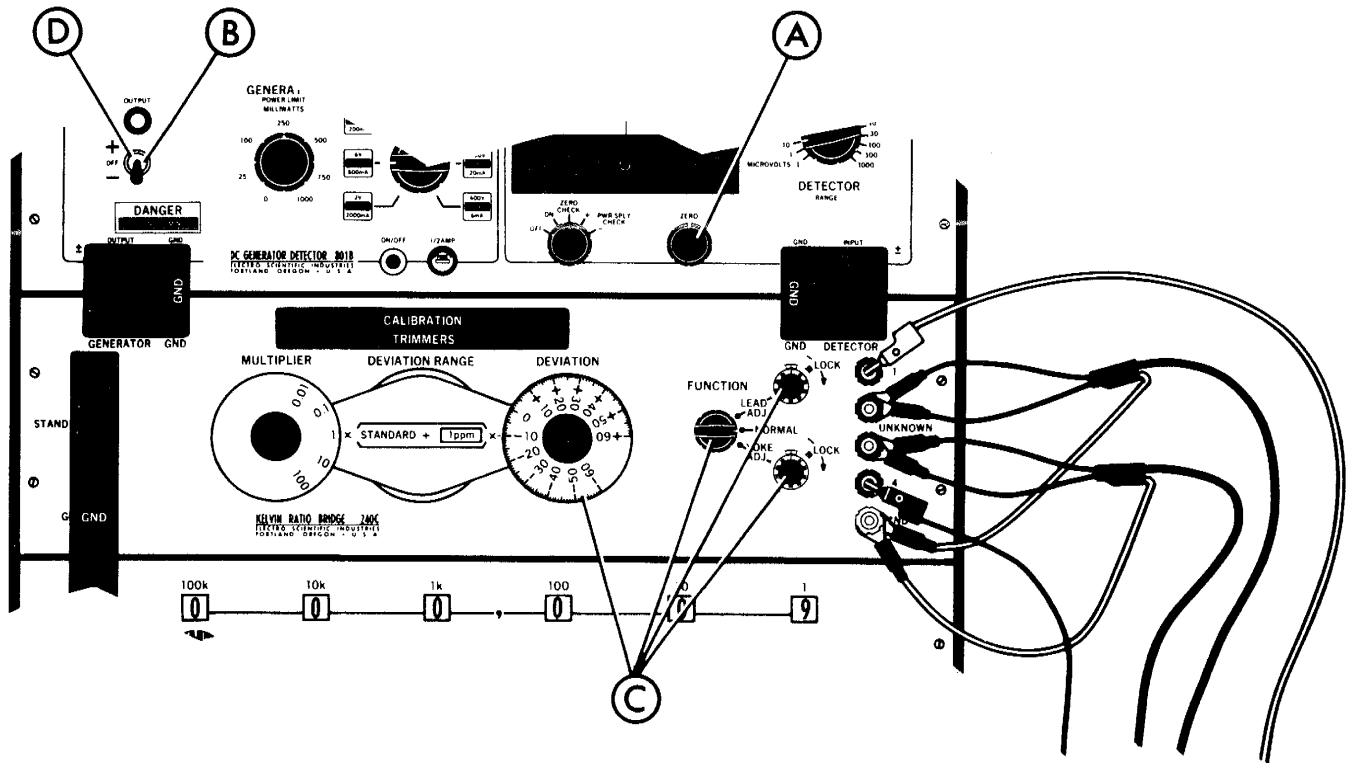

Figure 5-10. Deviation Measurement
9. Measure the SR1030s average deviation of the first 10 resistors. Reference Figure 5-10.